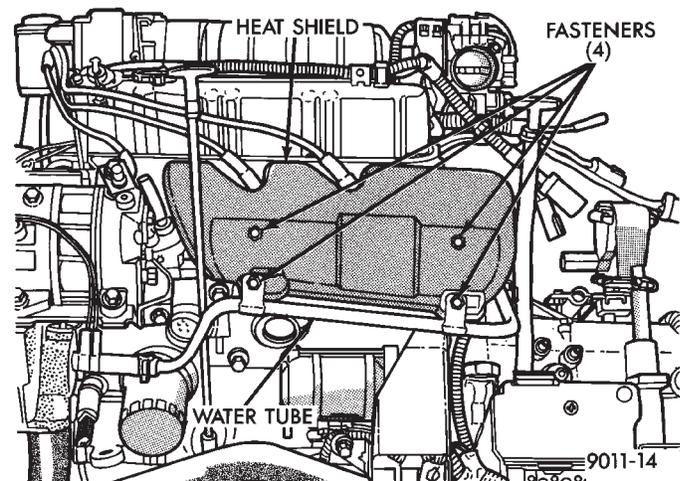

Fig. 17 Heat Shield
(6) Lower vehicle and remove screws attaching front heat shield to front manifold (Fig. 17).
- (6) Install front manifold heat shield and tighten attaching screws to 23 N•m (200 in. lbs.) (Fig. 17).